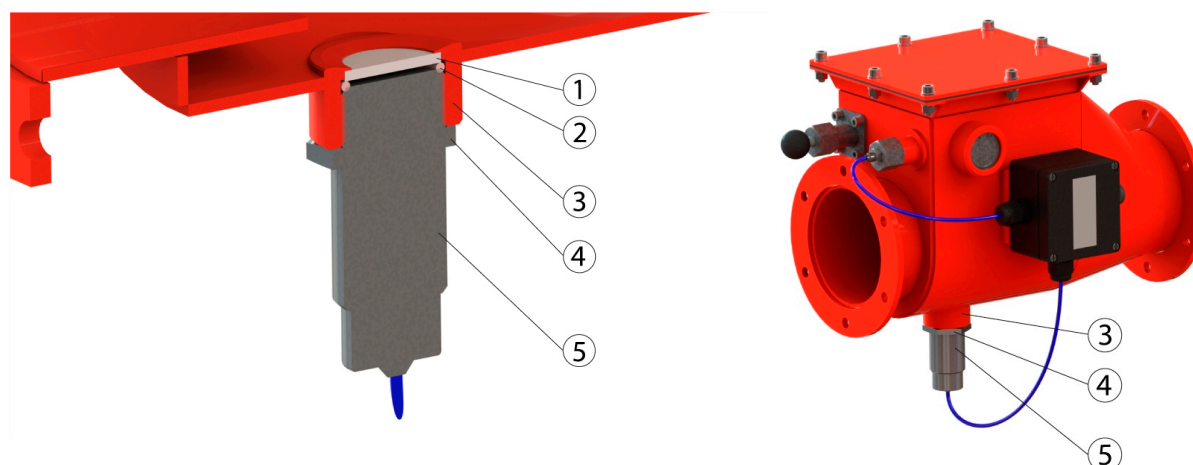

Figure 5 – Set of dust accumulation sensor (1 – borosilicate glass, 2 – o-ring, 3 – adapter, 4 – nut, 5 – dust accumulation sensor)
In a case of use is the dust accumulation sensor (5) screwed into an adapter (3) (see Fig. 5). In the adapter is inserted borosilicate glass (1). Dust accumulation sensor is screwed via an o-ring 25x2,5 (2), which push the borosilicate glass on a bearing surface of the adapter. Sensor is secured against loosening with a nut (4).